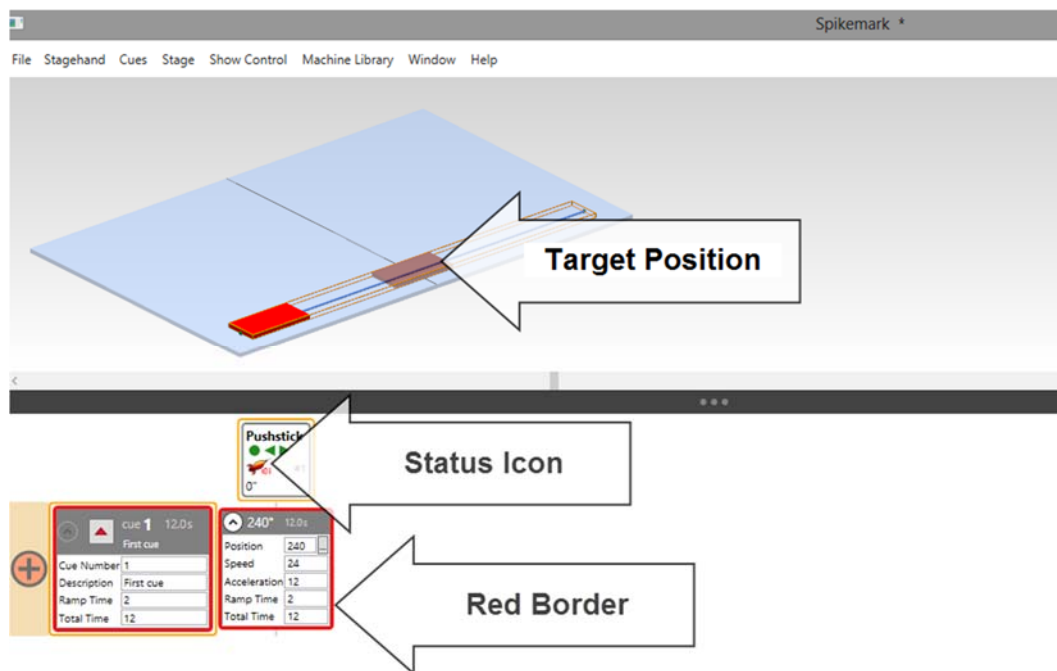

Figure 26
6. Press the **Load this cue** button in the *Cue 1* panel. There are several immediate changes in the interface to indicate that a cue is loaded (Figure 26):